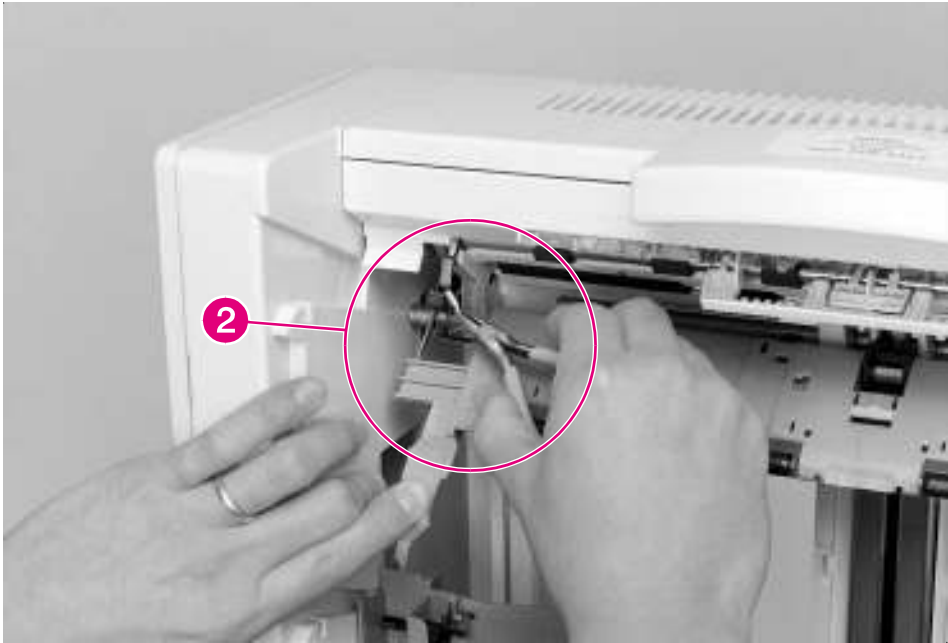

Figure 6-157 8-bin Mailbox Flipper Assembly (2 of 3)
- 4 Hold down the Jam Access Door while unplugging the ground wire that runs from the Input Paper Guide to the Flipper Motor (Figure 6-157, callout 2).
- 1 Hold down the Jam Access Door to reconnect the ground wire to the Flipper Motor (Figure 6-157, callout 2).